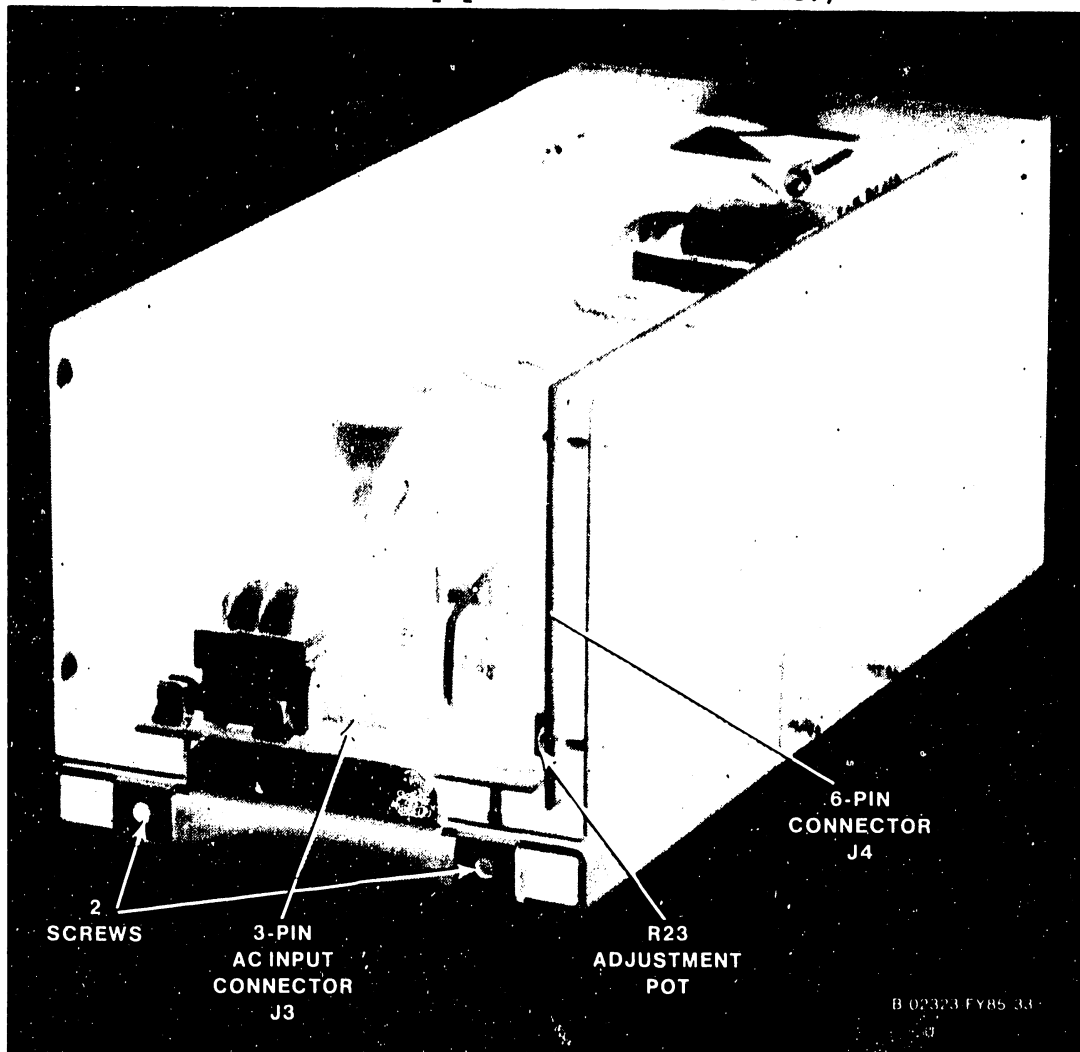

Figure 5-5a. Battery Backup Charging Power Supply Adjustment
2. On the Battery Backup Charging Power Supply, disconnect the 3-pin ac input power cable connector from J3. (Figure 5-5a.)
2. Measure across the two top wires (the black wire, pin 1, and the brown wire, pin 2) of the 6-pin cable connector (J4) on the power supply. (Figure 5-5a.)